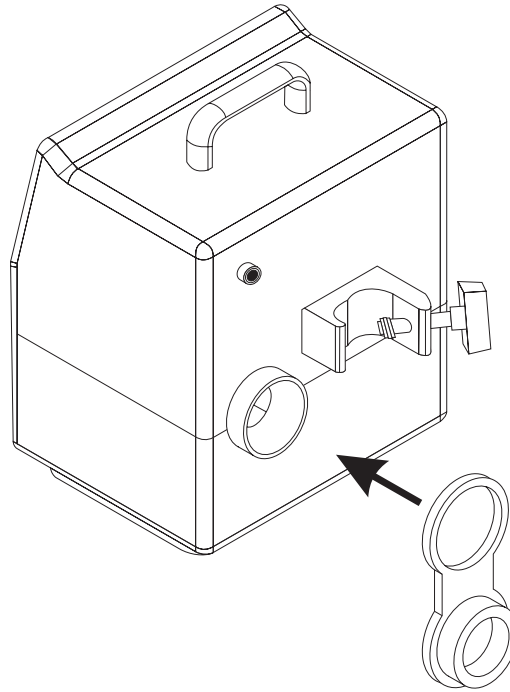

Figure 1 Hose Holder Installation
1. Attach the Hose Holder to the warming unit. The larger opening of the hose holder fits over the air outlet on the back of the warming unit as shown in Figure 1.